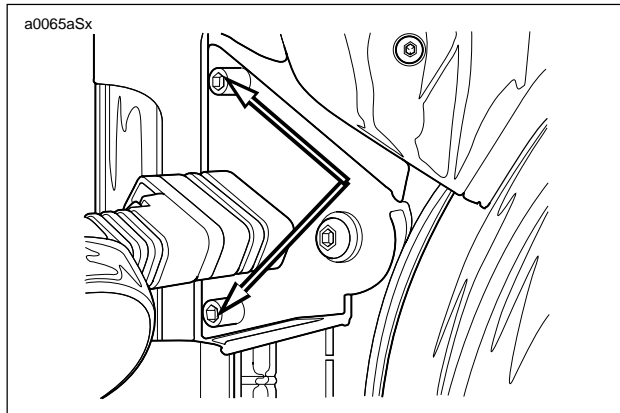

Figure 2-64. Headlamp Bracket Screws
5. See Figure 2-64. Loosen headlamp bracket screws.